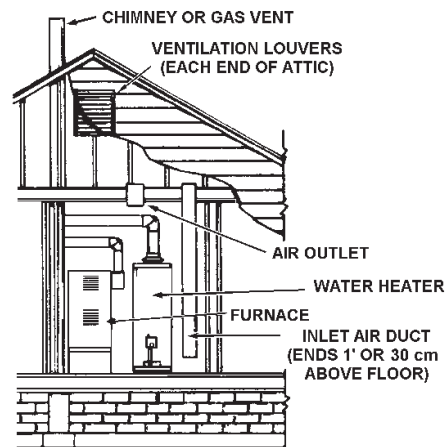

FIGURE 13.
- When communicating with the outdoors through vertical ducts, each opening shall have a minimum free area of 1 square inch per 4,000 BTU per hour (5.5 cm²/kW) of total input rating of all equipment in the enclosure, see Figure 13.